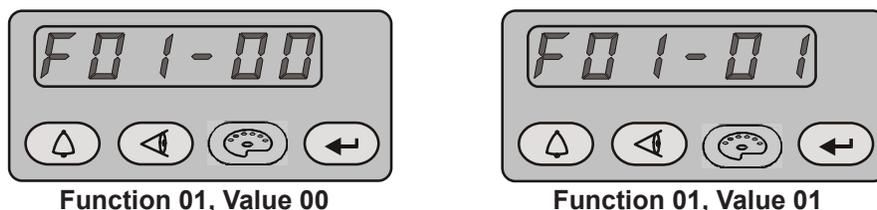

Figure 11 Displaying and Changing Configuration Functions
-  Select and hold the Nordson button for five seconds. The Function/Help display lights to show the function numbers and values. Use the functions to configure the controller for the appropriate application. See Figure 11.